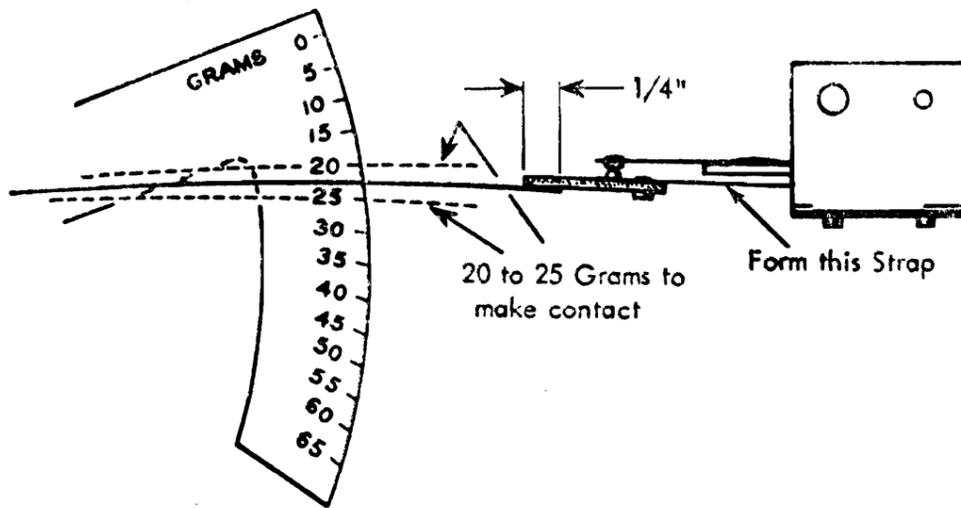

Figure 25. Interposer Bail Contact Adjustment
1. With the contact assemblies removed, form the operating strap near the mounting to require 20 to 25 grams to close the contacts (Figure 25). Place the gram gage finger under the phenolic pad with 1/4" overlap when checking the adjustment.